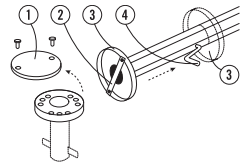

Fig. 2
- Dismantle lockable connecting bolts (1) pole/support tube. (Fig. 2).
- For the connection of the pole to the positioning hinge, proceed as described in Fig. 2.